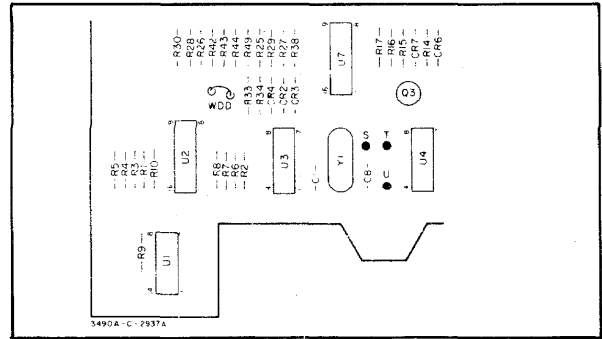

Figure 8-4. A1 Component Locator
- Change A1 Schematic Diagrams and Component Locator. See Figures 8-4 and 8-5.